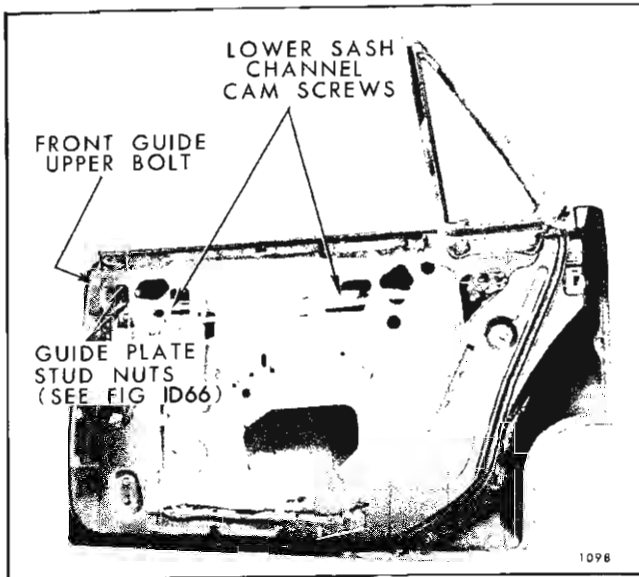

Fig. 1D67—Rear Door Window Removal - 68069 Style
- b. Front guide upper attaching bolt (Fig. 1D67).